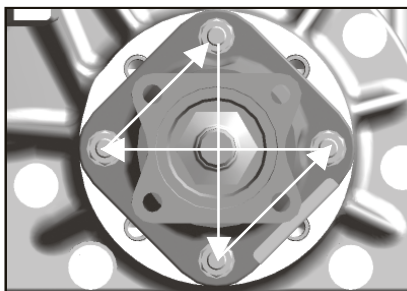

Fig. 6
e. Tighten and torque in pattern shown in Fig. 6. Torque to 55-60 Lbs.-ft. [75-81Nm]